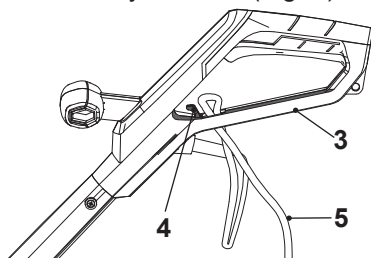

Fig. 4
1. Double the power cord (5) back, about 60 cm from the power guard and lead the loop through the hole of the rear safeguard (3) (Fig. 4).